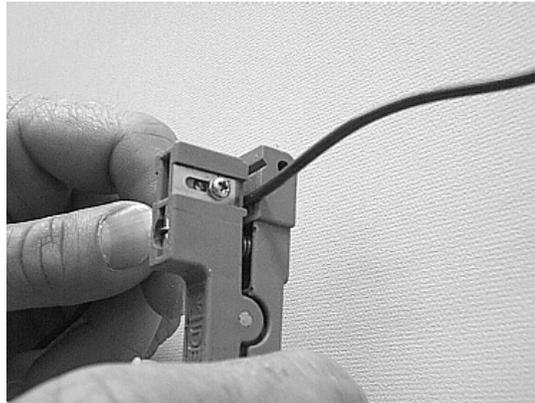

Figure 18 – Ring cut the buffer tubes with a buffer tube removal tool.
4.21 Consult the closure instructions to determine the buffer tube length that is required in the closure. Use a buffer tube removal tool to ring cut the buffer tubes and remove the tubes from the fibers (Figure 18).